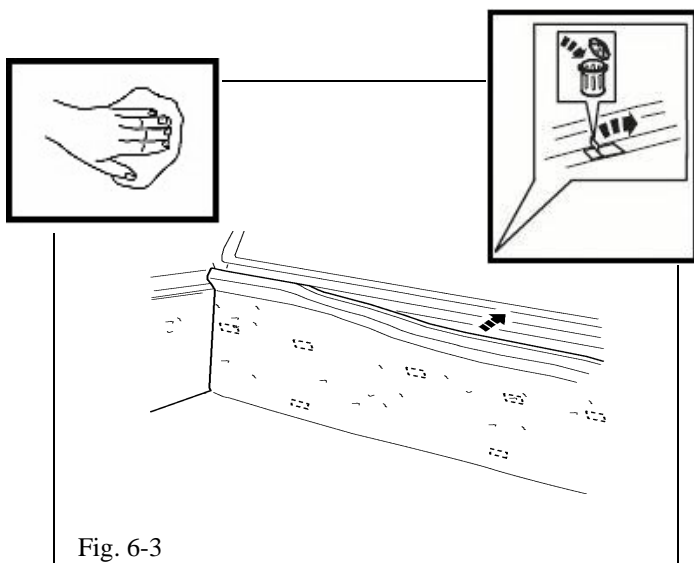

Fig. 6-3
- (i) Fit top edge of BedRug bulkhead to top edge of body panel to determine best location. (Fig 6-3)